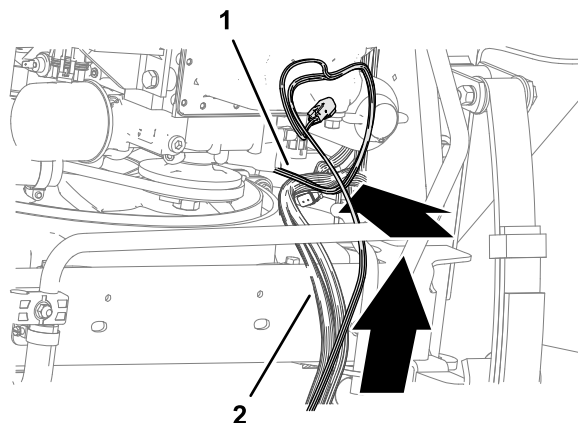

Figure 95
3. At the bottom, back side of the radiator, route the wire harness up, along the machine wire harness (Figure 95).